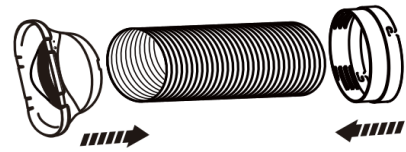

fig. 1
1. Extend one head of the hose connect the exhaust hose to the hose connector (fig. 1).
2. In the same way connect window kit adapter to the exhaust hose. (fig. 1)